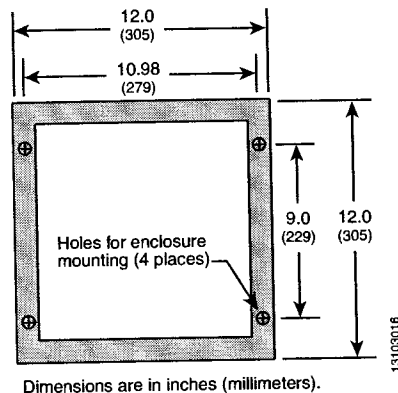

Figure 3: Wall Opening Dimensions
2. Mount the device as close as possible to the panel being protected. Create a wall opening slightly larger than 12 in. high by 12 in. wide (305 mm high by 305 mm wide). See Figure 3.